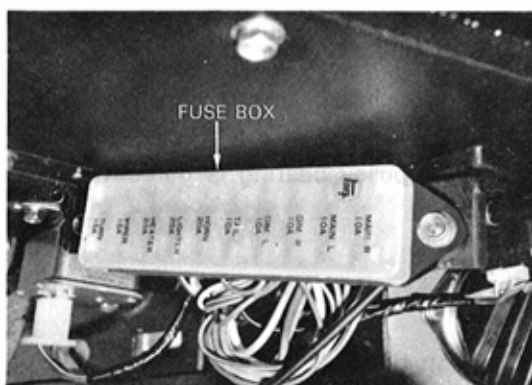

Fig. 48
- A. Inspect "LIGHTER" or "HEATER" fuse in the fuse box. See Fig. 48.